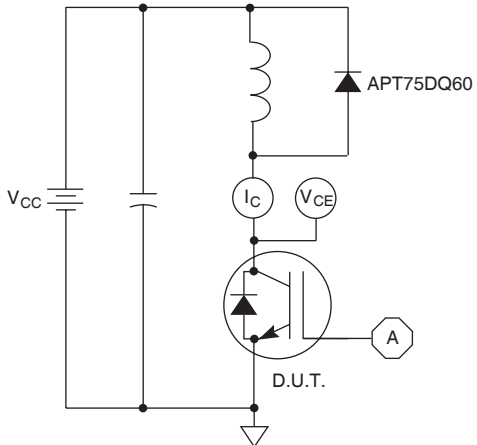

Figure 21, Inductive Switching Test Circuit
① Repetitive Rating: Pulse width limited by maximum junction temperature.
② For Combi devices, I_{ces} includes both IGBT and FRED leakages
③ See MIL-STD-750 Method 3471.
④ E_{on1} is the clamped inductive turn-on energy of the IGBT only, without the effect of a commutating diode reverse recovery current adding to the IGBT turn-on loss. Tested in inductive switching test circuit shown in figure 21, but with a Silicon Carbide diode.
⑤ E_{on2} is the clamped inductive turn-on energy that includes a commutating diode reverse recovery current in the IGBT turn-on switching loss. (See Figures 21, 22.)
⑥ E_{off} is the clamped inductive turn-off energy measured in accordance with JEDEC standard JESD24-1. (See Figures 21, 23.)
⑦ R_G is external gate resistance, not including $R_{G(int)}$ nor gate driver impedance. (MIC4452)
⑧ Continuous current limited by package lead temperature to 100A.